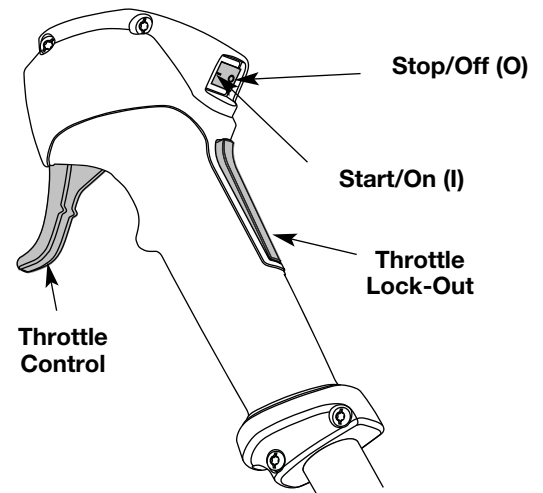

Fig. 15
2. Verify the On/Off Stop Control is in the **ON (I)** position (Fig. 15).